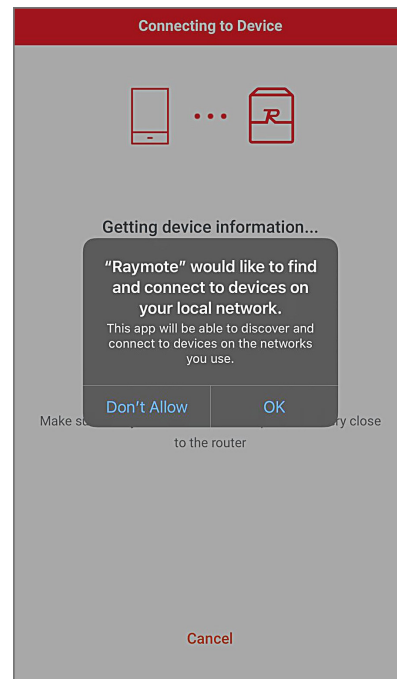

Figure 91. Grant Permission
**NOTE:** The first time you use a new phone, the Raymote mobile app will require you grant permission to access data. See Figure 91.